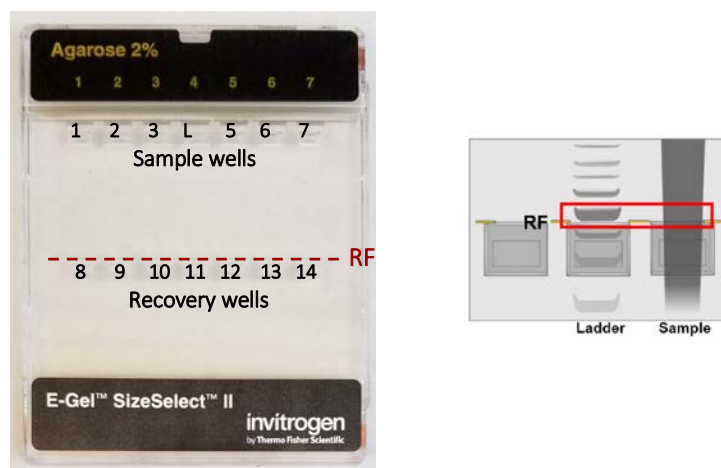

Figure 1. E-Gel SizeSelect II Gel Cassette
- 9.12.6. Carefully load 25 μ l of ladder into the top center well (Well L in Figure 1).
- 9.12.7. Load 25 μ l of each sample into the top wells, or the sample wells (Wells 1-3 and 5-7 in Figure 1).
- 9.12.8. Fill the bottom wells, or the recovery wells with 25 μ l of water (Wells 8-14 in Figure 1) and close the amber filter.
- 9.12.11. When 400-bp ladder band reaches the reference line (RF in Figure 1), pause the run.